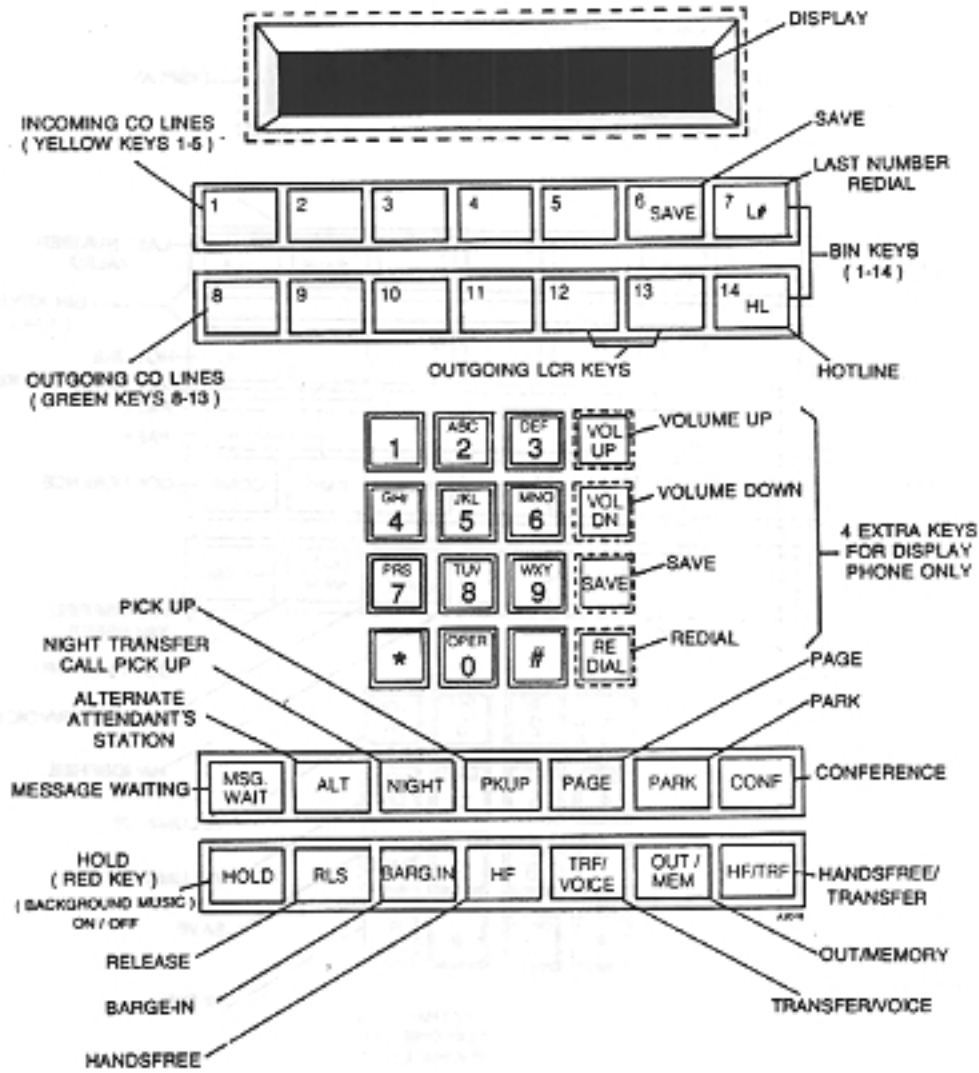

Figure 2-6 KEY LAYOUT, ATTENDANT MULTIBUTTON KEY TELEPHONE ( ULTRACOM ), SHOWN WITH DSS CONSOLE
**2.08** The Attendant Multibutton Key Telephone is the same as the standard Multibutton Key Telephone and is additionally programmed for several unique features to provide more efficient call processing. These features include Automatic Hold, Alternate Attendant Station, Handsfree Transfer, Release and Voice Transfer ( see key layout, Figures 2-6 and 2-7 ).
**2.09** The Attendant Display Multibutton Key Telephone is the same as the Display Multibutton Key Telephone and is additionally programmed for several unique features to provide more efficient call processing. These features include Automatic Hold, Alternate Attendant Station, Handsfree Transfer, Release and Voice Transfer ( see key layout, Figures 2-6 and 2-7 ).